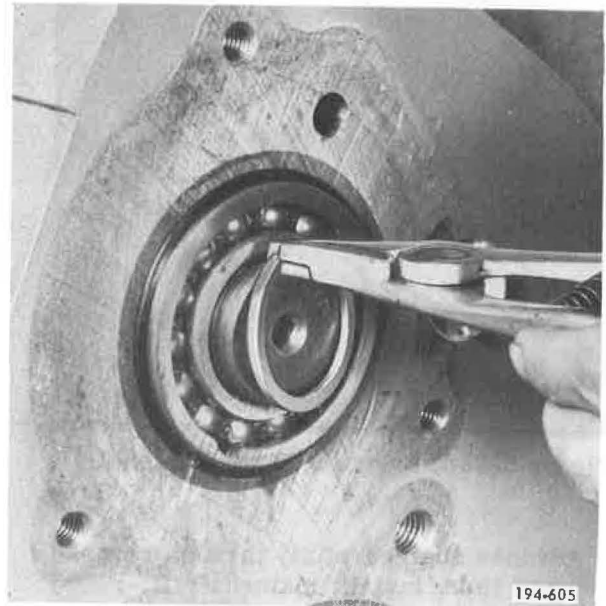

Figure 5-926. Installing Snap Ring
14. Place rear countershafts in position, and install rear bearing retaining snap ring, using snap ring pliers J-25445 or equivalent. See Figure 5-926.